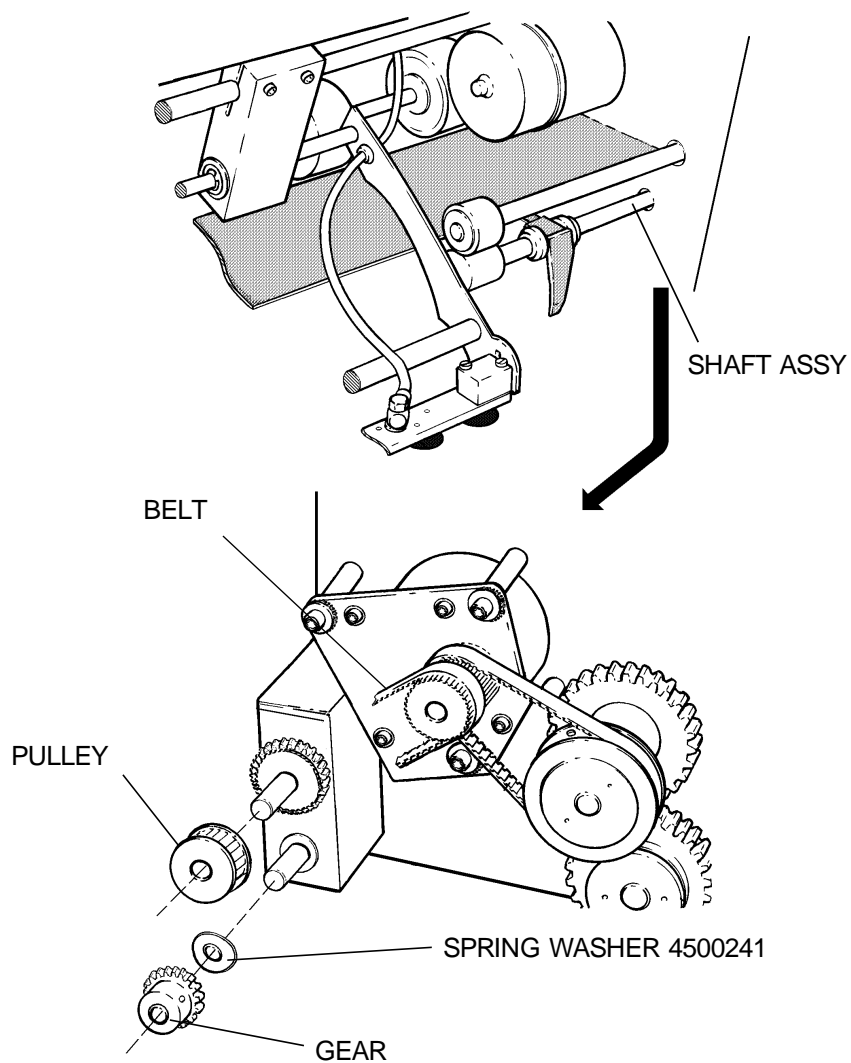

figure 1
6. Remove the PULLEY and the GEAR. Take out the SHAFT ASSY. See figure 1.
7. Install the new SHAFT ASSY 9192353. Use the new SPRING WASHER 4500241. See figure 1 and 2.